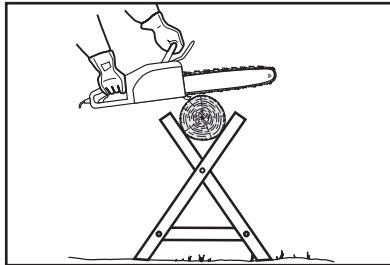

Fig. 34
- Support small logs on a sawing stand or another log while bucking (Fig. 34).